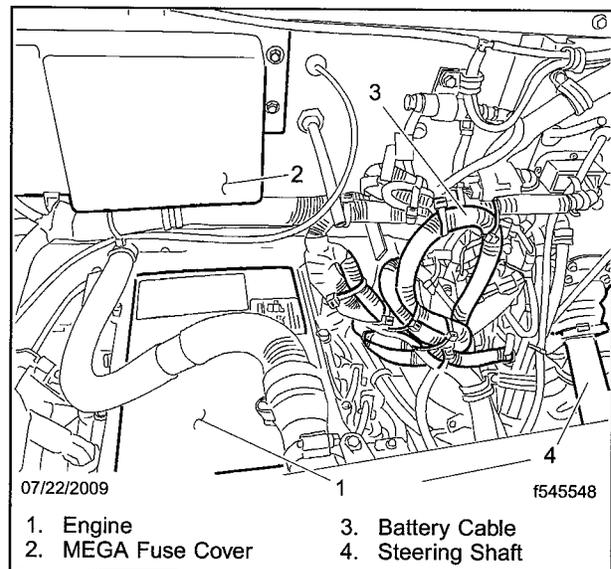

Fig. 8, Cable Mounting on the Cab Frontwall
20. Bundle any slack in the cables to the harness on the frontwall of the vehicle where it was previously removed. Use wire ties to secure the bundle. See **Fig. 8**.